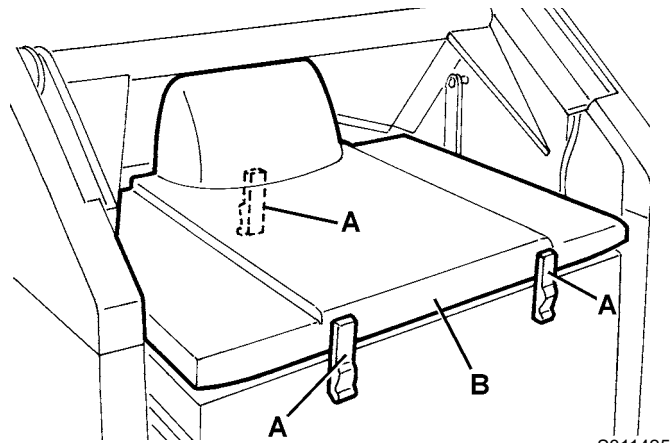

Figure 12
1. Drive the machine on a level ground and engage the parking brake with the pedal (76) and the lever (69).
2. Turn the ignition key (68) to "0".
3. Open the hood (22) and secure it with the support rod (37).
4. Disconnect the battery connector (25).
5. Release the fasteners (A, Fig. 12) and remove the dust filter cover (B).